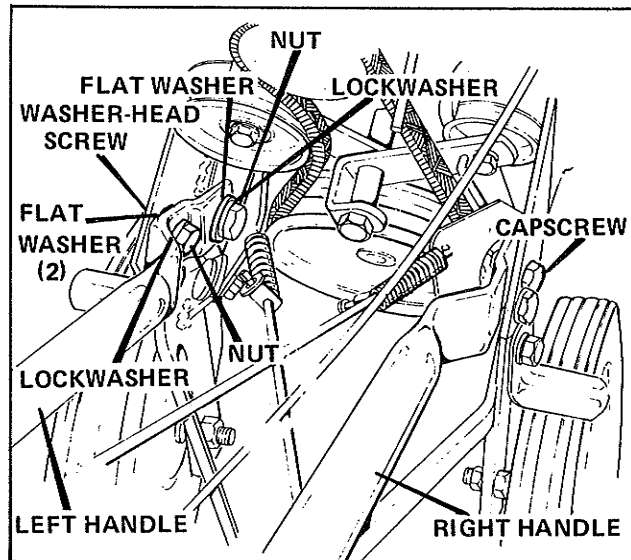

Figure 3.
2. See Figure 3. Assemble the left and right handles to frame as shown. Note locations of flat washers.